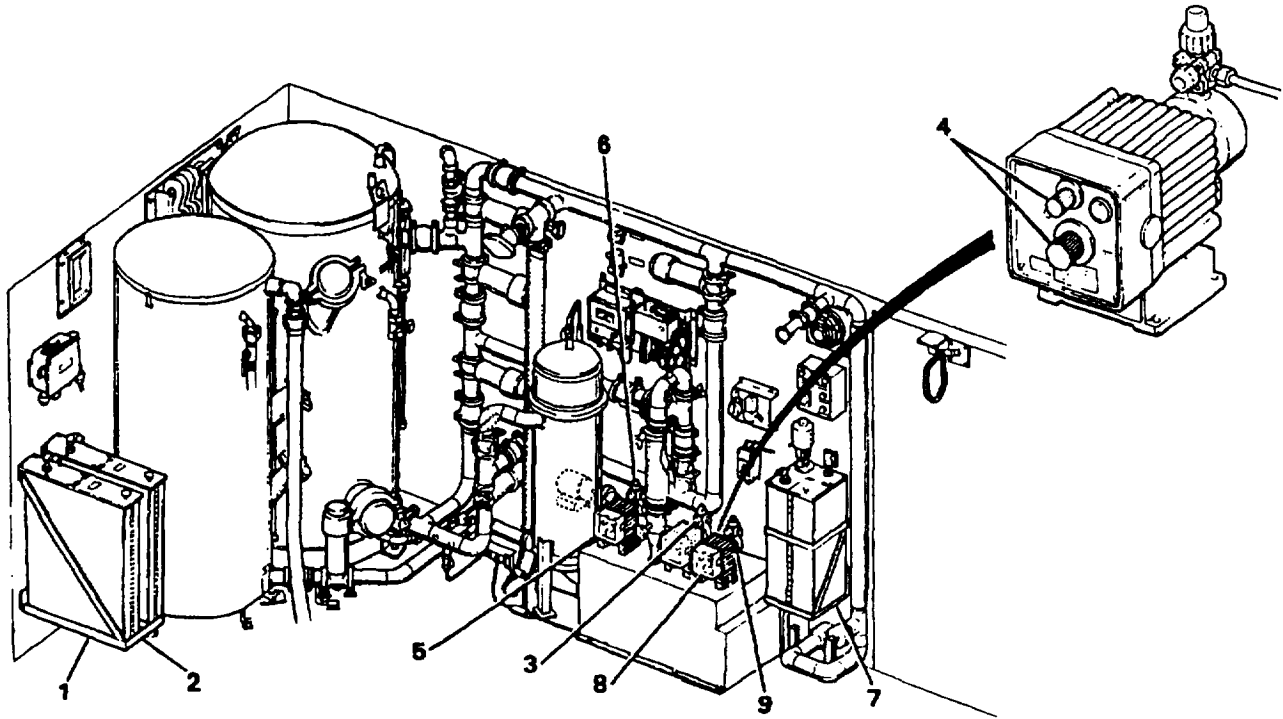

Figure 2-7. Manual Chemical Controls
e. *Manual Chemical Controls.* The manual chemical valves are shown in Figure 2-7 and listed in Table 2-6.
(Item numbers are keyed to Figure 2-7)